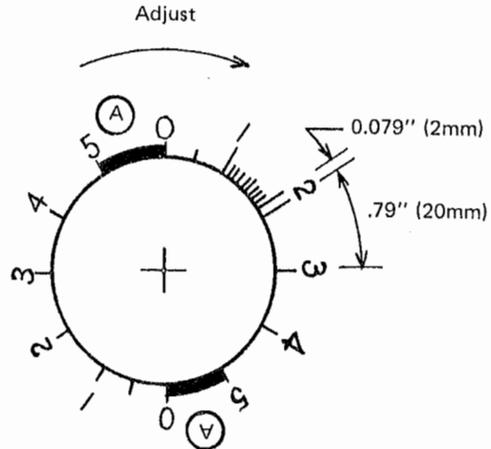

Fig. 14
1. Fine adjustment of imprint location—0.079" (2mm) per graduation and 2. adds approximately 3-15/16" (100mm) to the normal imprint area in the feed direction. Clockwise rotation of the selector knob moves the imprint away from the leading edge. See Figure 14.